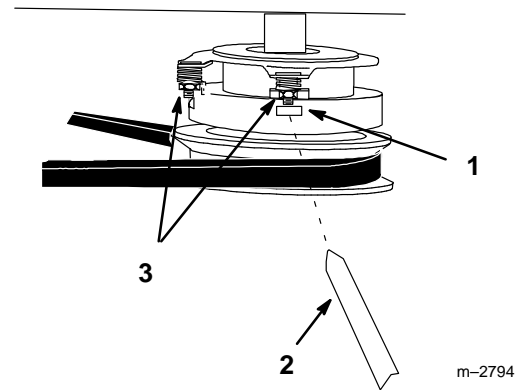

Figure 37
The electric clutch has three (3) adjustment nuts that all must be adjusted the same (Fig. 37).
1. Insert a 0.015 inch (.40 mm) feeler gauge into the slot (Fig. 37).